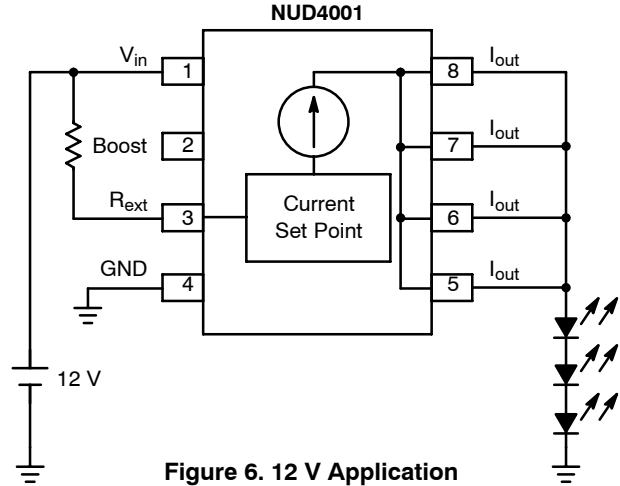

Figure 6. 12 V Application (Series LED's Array)
- a. Per example in Figure 6, $V_{in} = 12 \text{ V}$
- a. Per example in Figure 6,